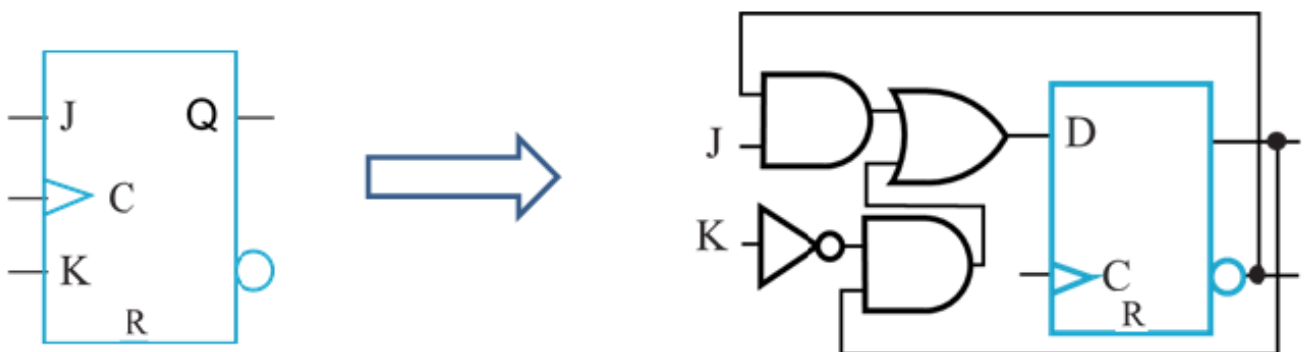

Figure 3: JK-FF Implementation
2. Inside the **jkff1.v** file, write a **structural** Verilog module to implement the JK-FF circuit given in Figure 3. You need to use the D-FF module defined in **dff1.v** and the basic gate modules defined in **lib.v**.